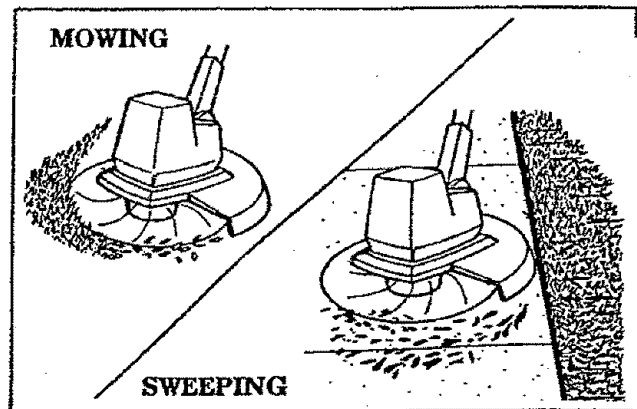

Figure 11
3. **MOWING**– Figure 11. Your trimmer is ideal for mowing in places conventional lawn mowers cannot reach. In the mowing position, keep the line parallel to the ground. Avoid pressing the head into the ground as this can scalp the ground and damage the unit.
4. **SWEEPING** – Figure 11. The fanning action of the rotating line can be used for a quick and easy clean up. Keep the line parallel to and above the surfaces being swept and move the unit from side to side.